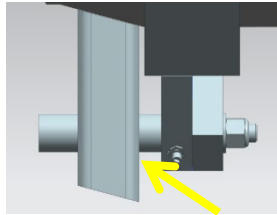

Figure 13: Clamp Ring Pivot Plate Cut Location
- F. Cut pivot pin through the entire cross section. This cut should be made as close to the pivot pin channel as possible, see Figure 13.